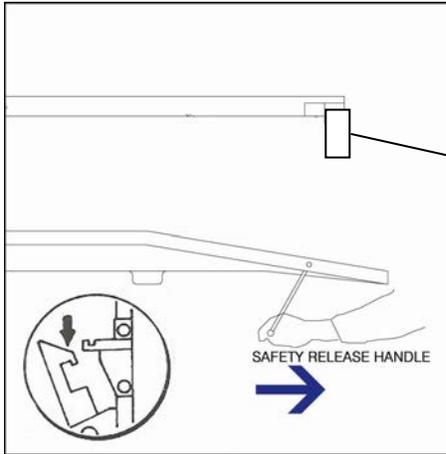

Figure 4.
- Pull the Safety Hook Release Handle and continue to hold in this position AND push the **DOWN** button until the safety hooks have passed the safety shelf. (Figure 4.)